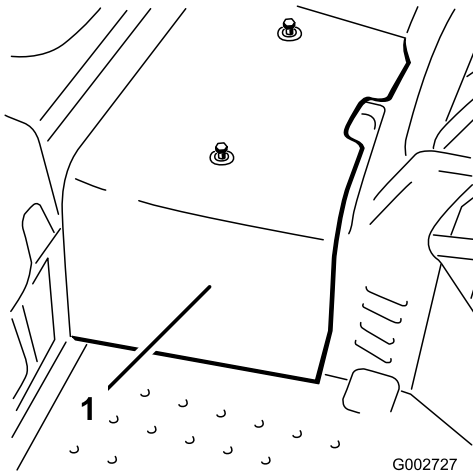

Figure 31
2. Remove the 2 screws securing the center shroud to the machine and remove the shroud (Figure 31).